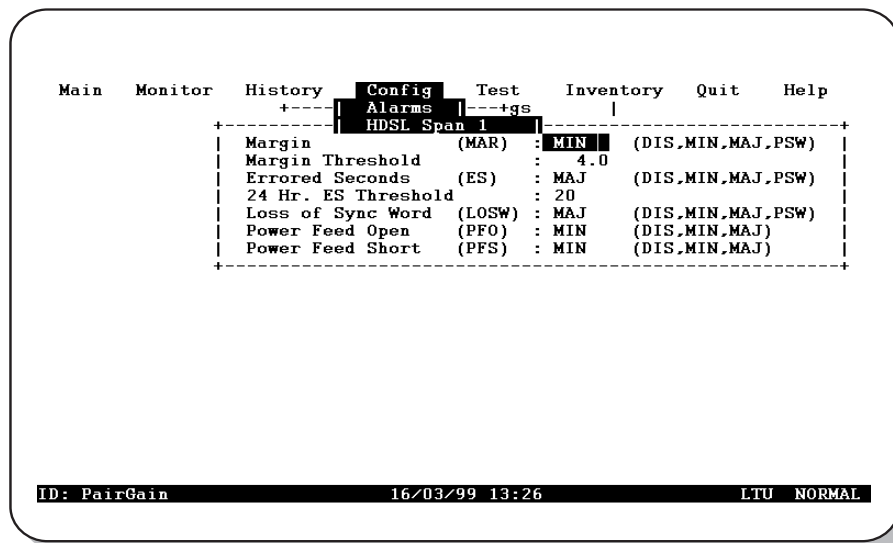

Figure 29. Config Alarms HDSL Span 1 Menu
- 1 Type **1** at the *Config Alarms* drop-down menu to display the *Config Alarms HDSL Span 1* menu (Figure 29).